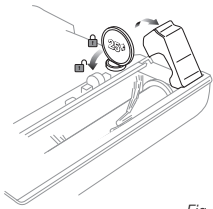

Fig. 12
- 4 Use a coin to remove the trap door if you need to remove the brushroll to either clean it or replace it. (Fig. 12)